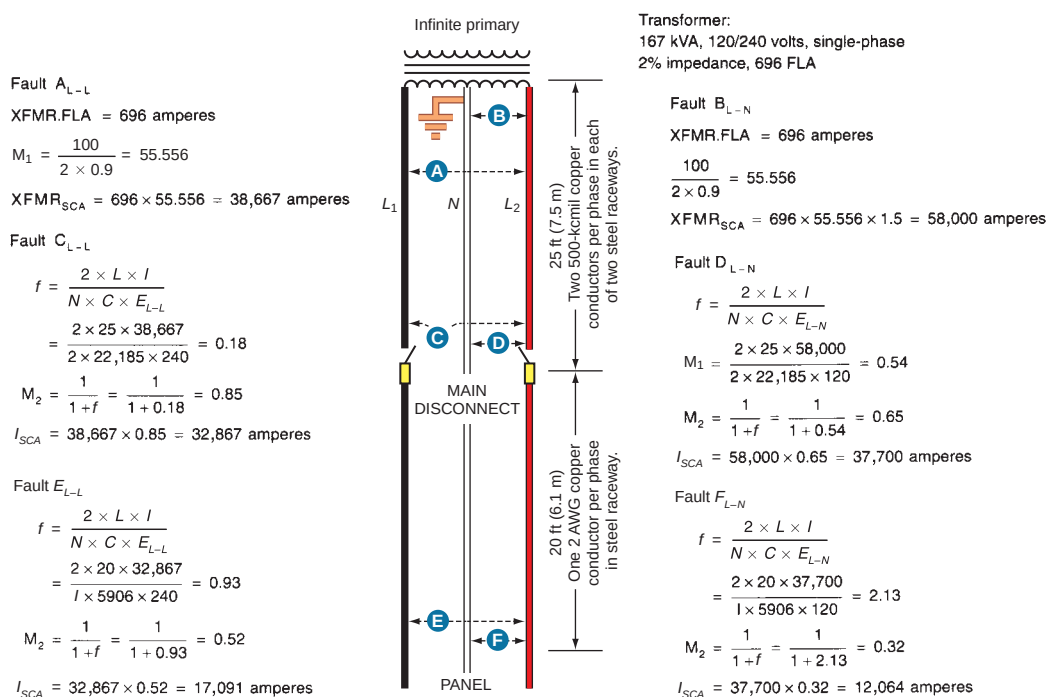

FIGURE 18-1 Point-to-point calculations for a single-phase, center-tapped transformer. Calculations show L-L and L-N values. (Delmar/Cengage Learning)
Explanatory note: At the secondary terminals of a single-phase, center-tapped transformer, the L–N fault current is higher than the L–L fault current. At some distance from the terminals, depending on the wire size and type, the L–N fault current is lower than the L–L fault current. This can vary from 1.33 to 1.67 times. These figures are based on the change in the turns ratio between the primary and secondary, infinite source impedance, a distance of zero feet from the terminals of the transformer, and 1.2% reactance (X) and 1.5% resistance (R) for the L–N versus L–L resistance and reactance values. For simplicity, in Step 4c we used an approximate multiplier of 1.5. First, do the L–N calculation at the transformer secondary terminals, Step 4c, and then proceed with the point-to-point method. See Figure 18-1 for an example.
This problem is illustrated in Figure 18-1. The point-to-point is used to determine the currents for both line-to-line and line-to-neutral faults for a 167-kilovolt-ampere, 2% impedance transformer on a 120/240-volt, single-phase system. The marked transformer impedance can vary by $\pm 10\%$ per UL Standard 1561. To show the worst-case condition, this is accounted for at the beginning of the calculations by reducing the impedance 10% using this formula: